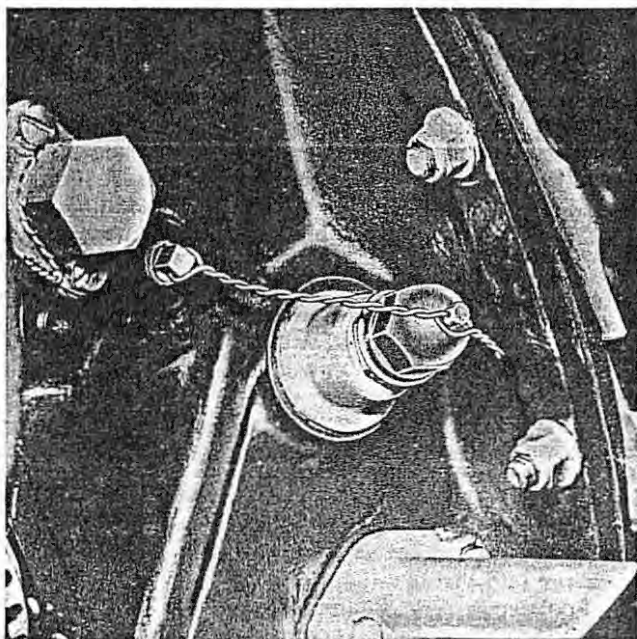

Figure 5-34. Oil Pressure Relief Valve Adjustment
- b. On right-hand side of engine accessory housing, remove the acorn cap from the oil pressure adjusting screw (figure 5-34).